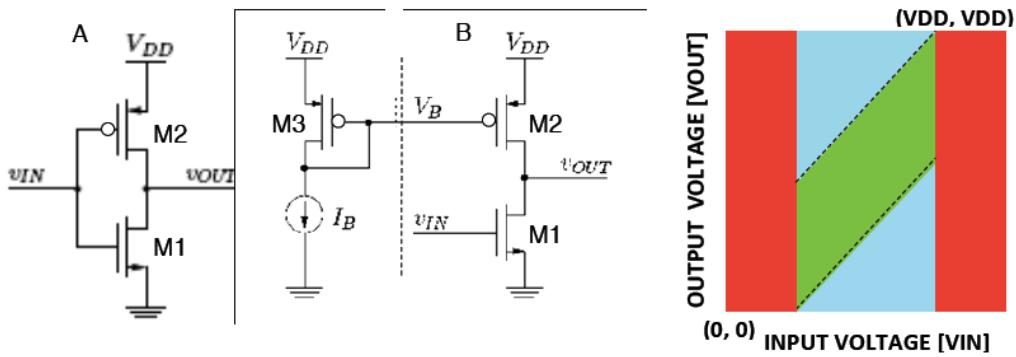

Figure 8: Two analog amplifiers. A is a regular CMOS inverter B is a pseudo-NMOS inverter intended as an amplifier.
In Figure 8 you find the circuit diagram for two CMOS inverters, (A) and (B). The inverter to the left, (A), is a regular CMOS inverter that switches at  $V_{DD}/2$ . The inverter to the right, (B), is a pseudo- NMOS inverter intended as an amplifier. Its load p-channel MOSFET, M2, is biased at an unknown gate voltage,  $V_B$ , determined by a current mirror. A current mirror takes current  $I_B$  from a constant-current source and mirrors it to the inverter. Otherwise, the two CMOS inverters are identical except for the biasing. Transistors M1 and M2, respectively, are the same MOSFETs in both inverters. The rightmost diagram in the figure above shows the CMOS regions of operation.
a) Relate the two current gain factors  $k_1$  and  $k_2$  of MOSFETs M1 and M2 to each other considering that inverter (A) switches at  $V_{DD}/2$  assuming symmetrical threshold voltages,  $V_{TN} = -V_{TP} = V_{DD}/5$ ? (2 p)